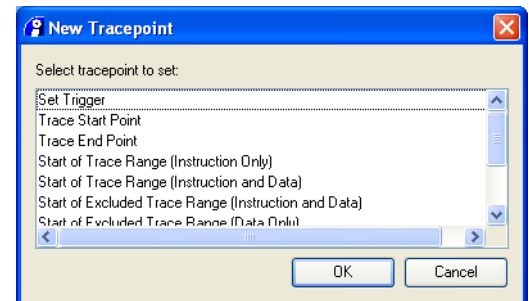

Figure 6-3 New Tracepoint dialog box
2. Select **Insert Tracepoint...** from the context menu to open the New Tracepoint dialog box. Figure 6-3 shows an example:
6. Select **Insert Tracepoint...** from the context menu to open the New Tracepoint dialog box. Figure 6-3 on page 6-7 shows an example.